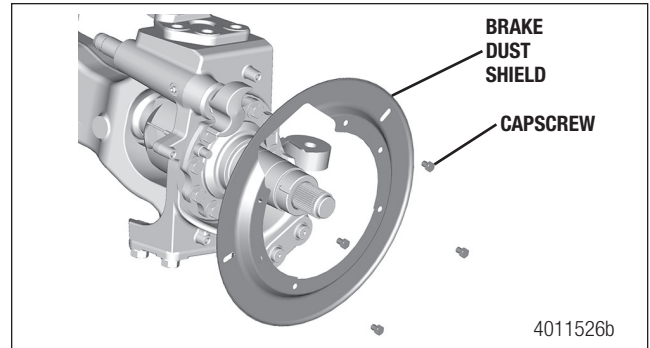

Figure 8.22
11. Place the brake dust shield into position on the spindle and install the four mounting capscrews. Tighten to specification. Refer to Section 12 Specifications on page 77. Figure 8.22.